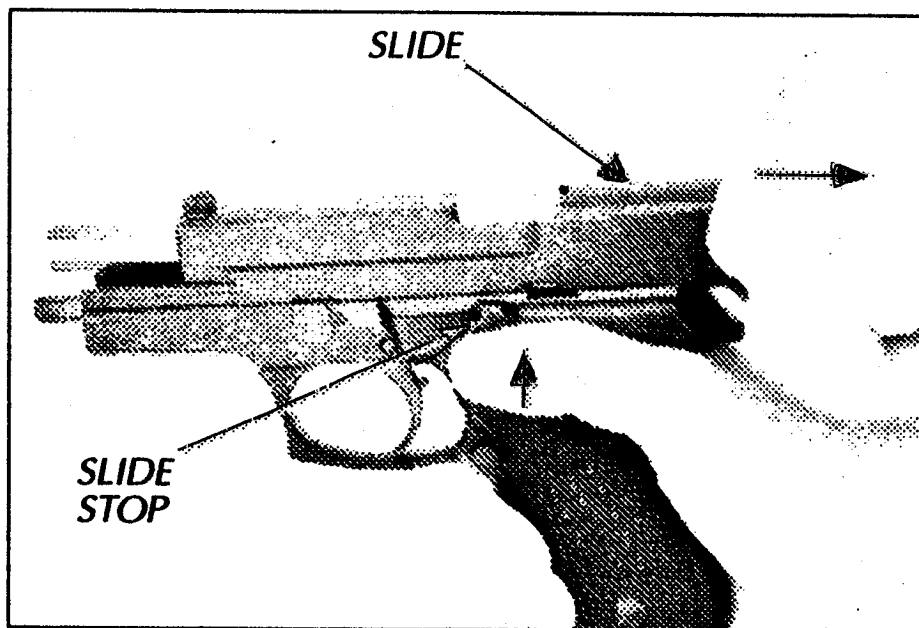

Fig. 11 PULLING SLIDE BACK
2. Pull slide back to retain it in rear position with one hand, while holding the grip with the other. When the slide is brought into rear position, with the thumb of the hand holding the grip lift the slide stop. The slide will now remain in rear position (Fig 11).